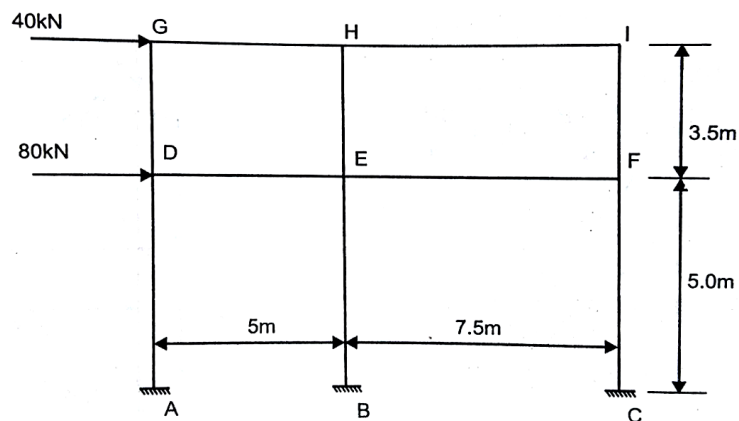

Figure 2.8
10. Using the Cantilever method, analyses the building frame subjected to horizontal force (due to wind) as shown in Figure 2.8. Sketch the bending moment diagram.